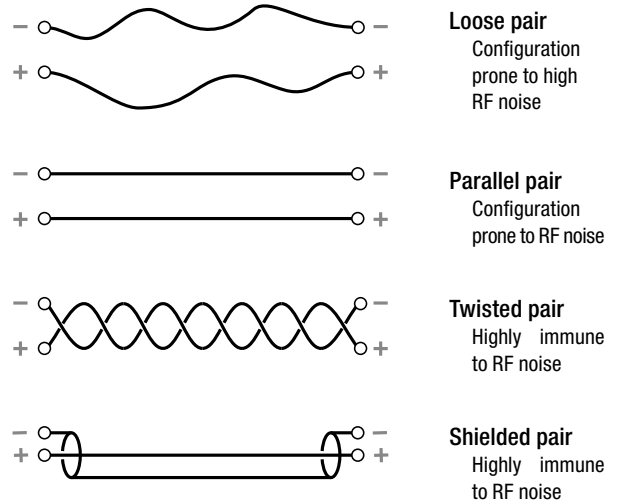

FIGURE 3: Cabling configuration.
- ▶ set the cabling for RF noise rejection: shielded or twisted cables are advisable configuration (ref. FIGURE 3);